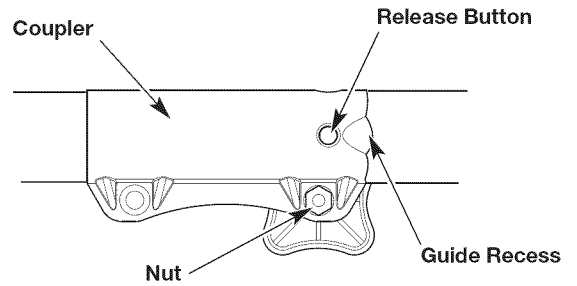

Fig. 2
NOTE: Aligning the release button with the guide recess will help installation (Fig. 2).
NOTE: Do not tighten the nut (Fig. 2).
2. Press and hold the release button (Fig. 2).